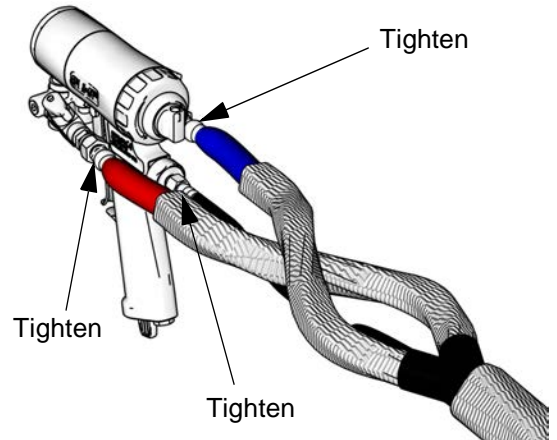
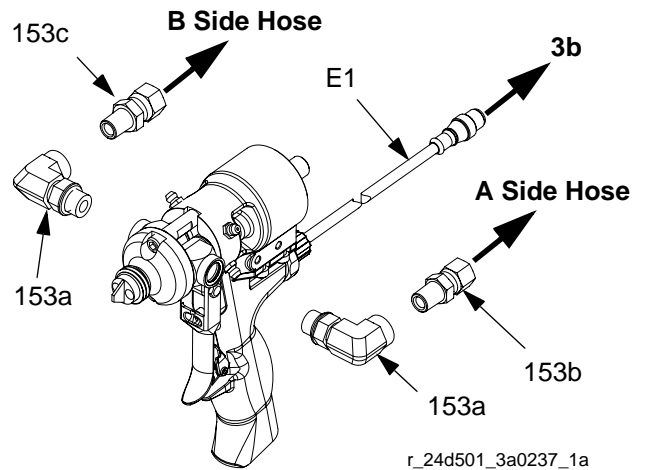

FIG. 1: Fusion Gun
FIG. 2: MD2 Valve Kit 24D501
1. Assemble A and B component hoses to gun or gun manifold fittings as shown in FIG. 1 and FIG. 2.
**NOTE: Use chemical connection kit (153) on all MD2 valves. See FIG. 2.**